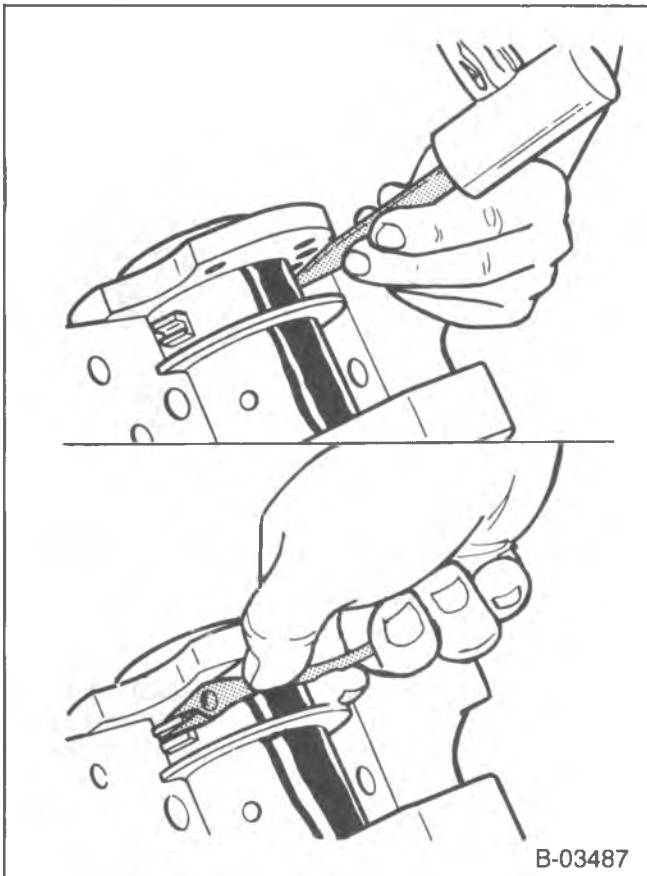

Figure 22—Removing The Upper Seal Half
- Upper seal half (figure 22).